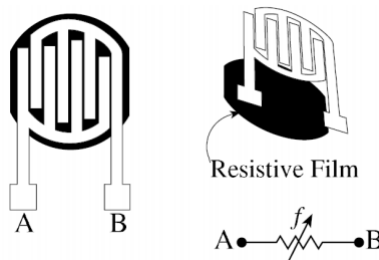

Figure 8: Diagram of a Force-Sensing Resistor
- \* Consists of a resistive material and a set of contacts; applying force to the sensor distorts the material allowing higher conductivity (see figure 8)